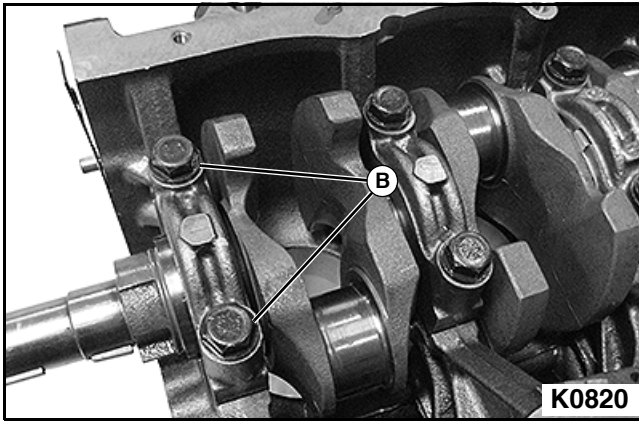

Figure 3-223
3. Remove main bearing caps by extending cap screws (B) and forcing heads of screws together. Wiggle bearing cap back and forth while applying an upward force with cap screws until free from main bearing cap support. **See Figure 3-223.**